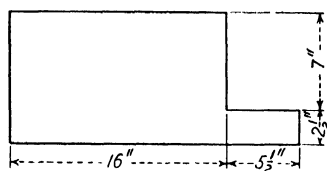

Fig. 46.
10. Change the dimensions in Fig. 46 to feet, expressing the answers as decimals accurate to the nearest tenth of a foot.